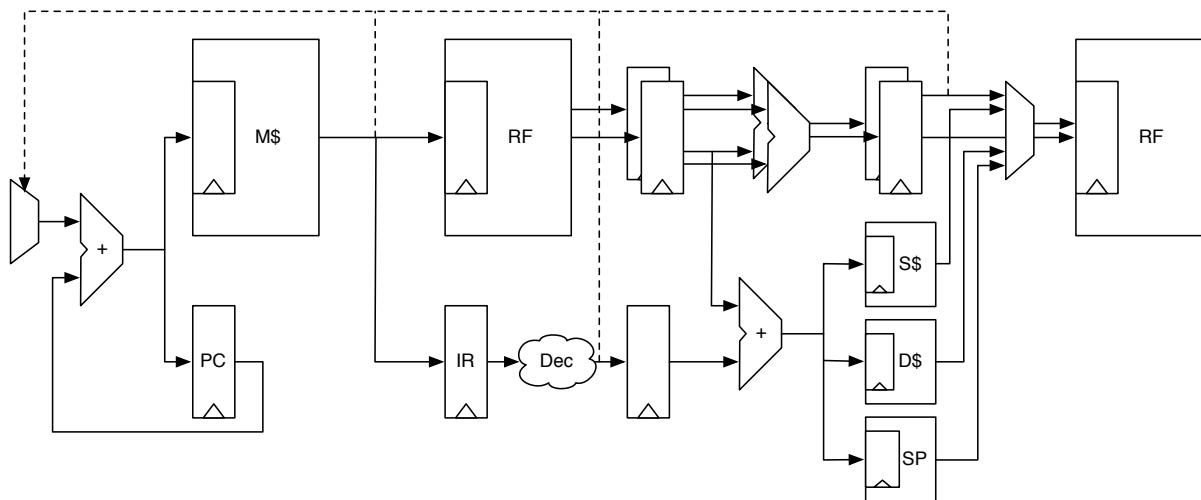

Figure 2.1: Pipeline of Patmos with fetch, decode, execute, memory, and write back stages.
Figure 2.1 shows an overview of Patmos' pipeline. The pipeline consist of 5 stages: (1) instruction fetch (FE), (2) decode and register read (DEC), (3) execute (EX), (4) memory access (MEM), and (5) register write back (WB).
Patmos contains several on-chip memories, as sketched in Figure 2.1. We apply the idea of split caches [12] to simplify and enhance the cache analysis. Instructions are fetched from the instruction cache. Patmos also supports instruction and data scratchpad memories. Stack allocated data is cached in a stack cache and we envision also a normal data cache with LRU replacement. Accesses to data that are hard to analyze can bypass the data cache.